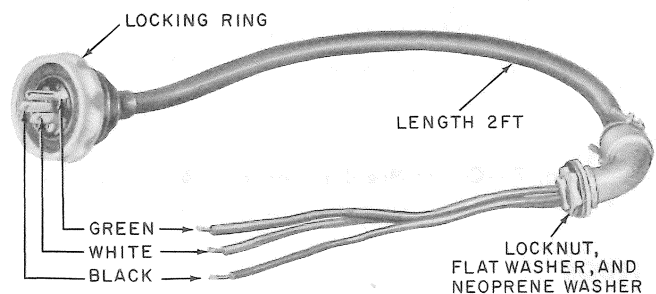

Fig. 6—KS-19580, List 30 Power Cord Assembly
- (c) ***KS-19580, List 30 power cord assembly (Fig. 6):*** Used to bring overhead power into an outdoor booth